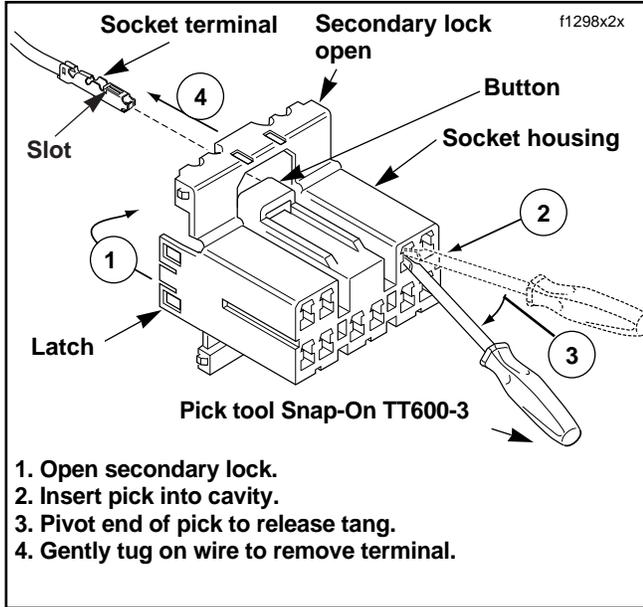

Figure 4. Amp Multilock Socket Connector Wire Removal
7. See Figure 4. Press the button on connector [20] to unplug.
1. See Figure 4. Bend back the latch slightly and free one side of secondary lock, then repeat the step to release the other side. Rotate the secondary lock outward on hinge to access terminals in chambers of connector housing.
4. See Figure 4. With the flat side of pick tool against the terminal, insert the pick (Snap-On TT600-3) into the cavity until it stops. Pivot the end of the pick away from the terminal and gently tug on wire to pull terminal from chamber. Do not tug on the wire until the tang is released or the terminal will be difficult to remove. A "click" is heard if the tang is engaged but then inadvertently released. Repeat the step without releasing the tang.
3. See Figure 4. After all wires are in place, close the secondary locks on the socket housing.